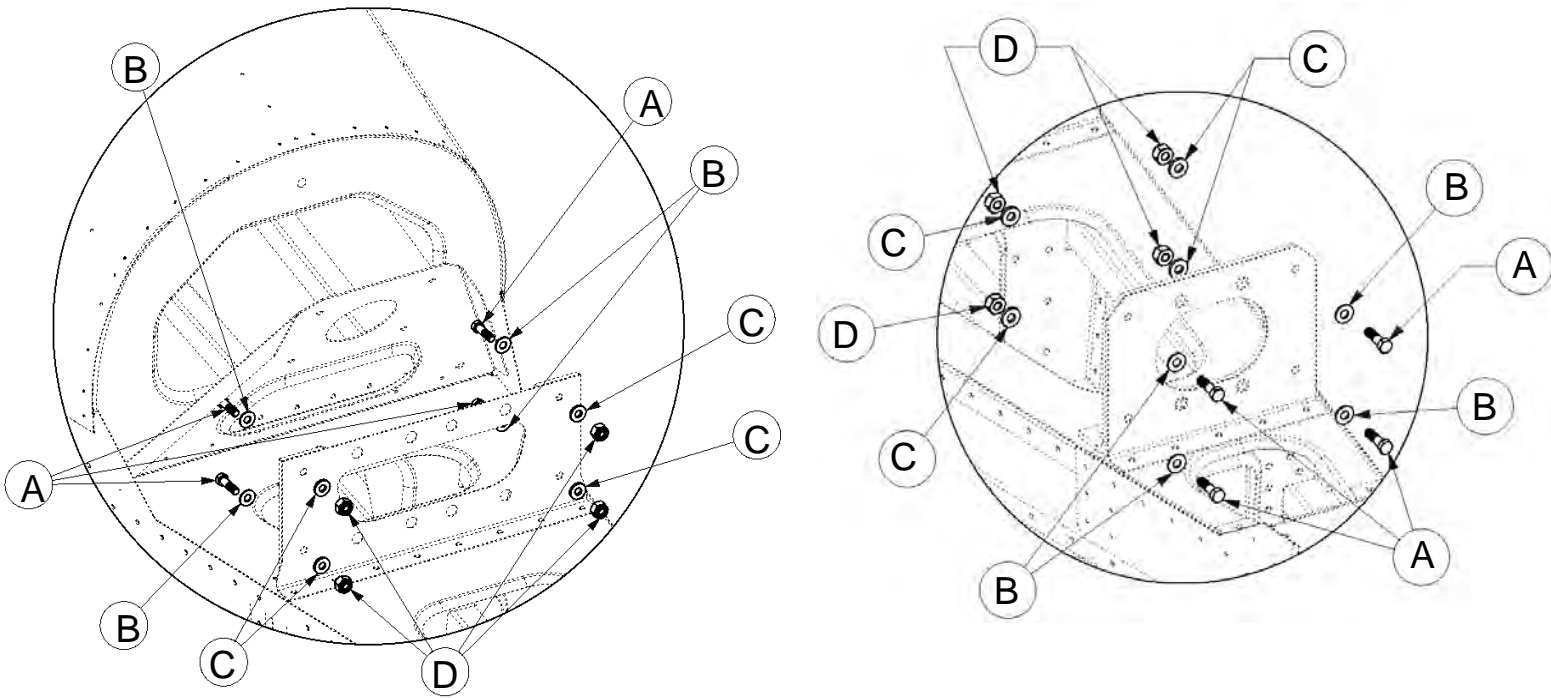

Figure 25: Horizontal stabilizer to fuselage attachment.
- Tighten the lock-nuts sufficiently. Observe the correct placement of washers (refer to Figure 25).